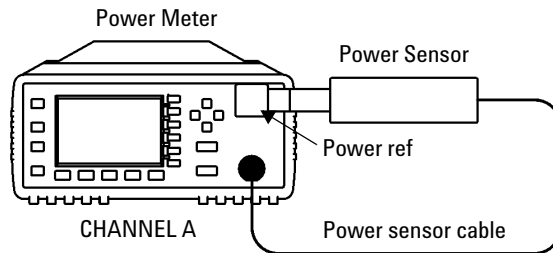
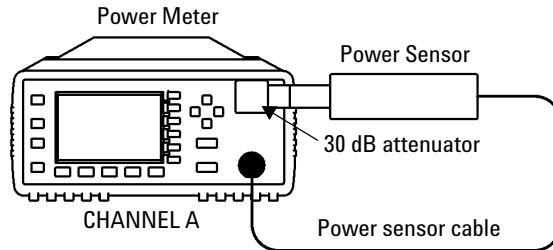

Figure 2-7 Sensor (Average Path) Functional Test Setup
Figure 2-8 Sensor (Average Path) Functional Test Setup With Attenuator
Refer to Figure 2-7 and Figure 2-8 below.
- 1 Connect the equipment as shown in Figure 2-7.
- 6 Connect the 30 dB attenuator as shown in Figure 2-8.
14 Disconnect the 30 dB attenuator and reconnect the test setup as shown in Figure 2-7.